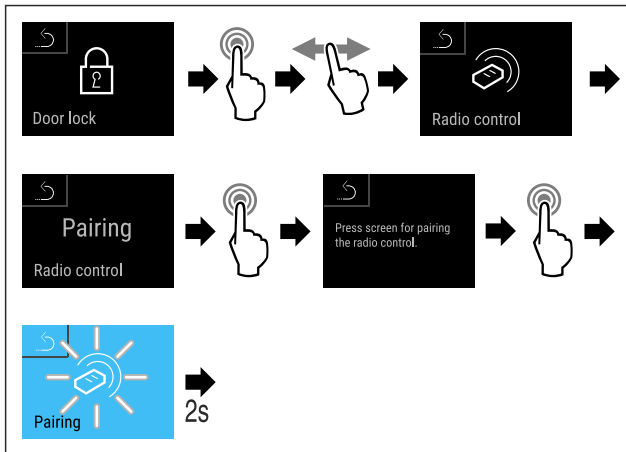

Fig. 100
- ▶ Complete steps (see Fig. 100).